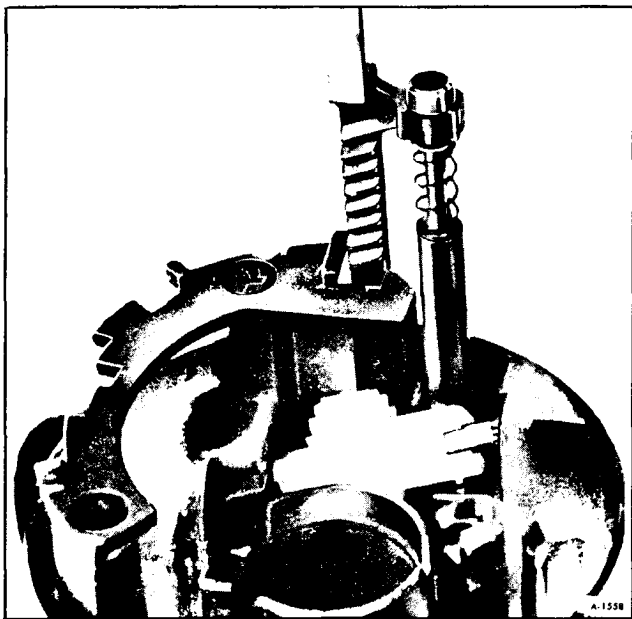

Figure 76-Removing Rack and Lock Bolt
17. Remove the rack and lock bolt. (figure 76).